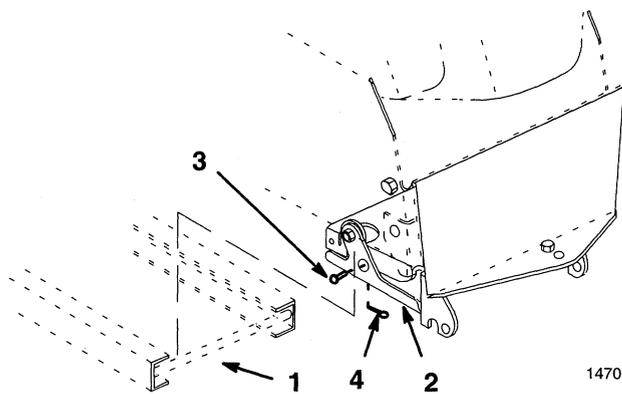

Figure 9
4. Slide frame under tractor and center between rear latches. Open latch levers and lift frame into position. (Fig. 9).
5. Secure latch levers with clevis pins and hairpin cotters (Fig. 9).